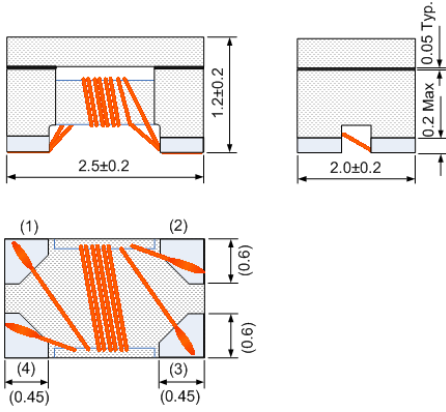

Fig.4-3
①	Lid	Ni-Zn Ferrite
②	Epoxy	Epoxy resin
③	Wire	Polyurethane system enameled copper wire
④	Core	Ni-Zn Ferrite
⑤	Electrode structure	(Ag-Pd)+Ni+Sn plating
- b) Dimensions: See **Fig. 4-3**.